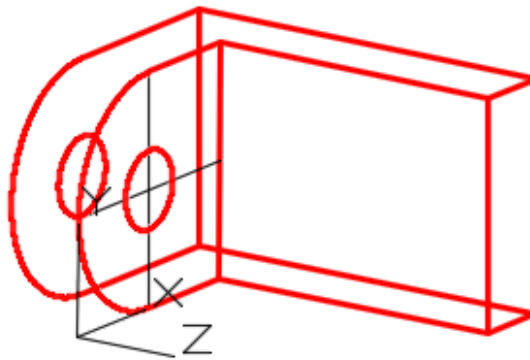

Figure Step 12
Step 12 Trim or delete necessary lines. (Figure Step 12)